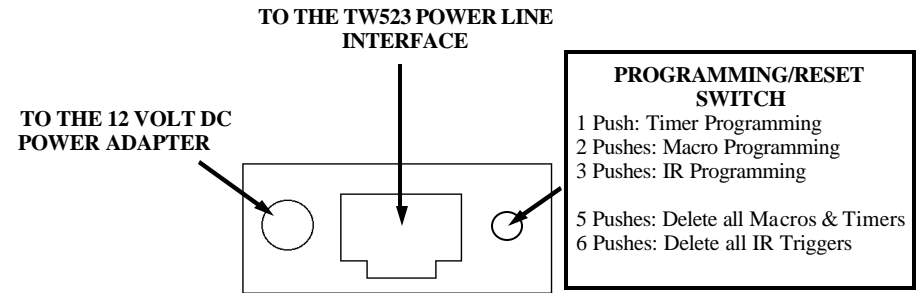

FIGURE 1: MACRO MODULE
- 2 Connect one end of the provided modular cord into the TW523 Power Line Interface and the other end into the modular jack on the back of the Macro Module IR (see Figure 1).